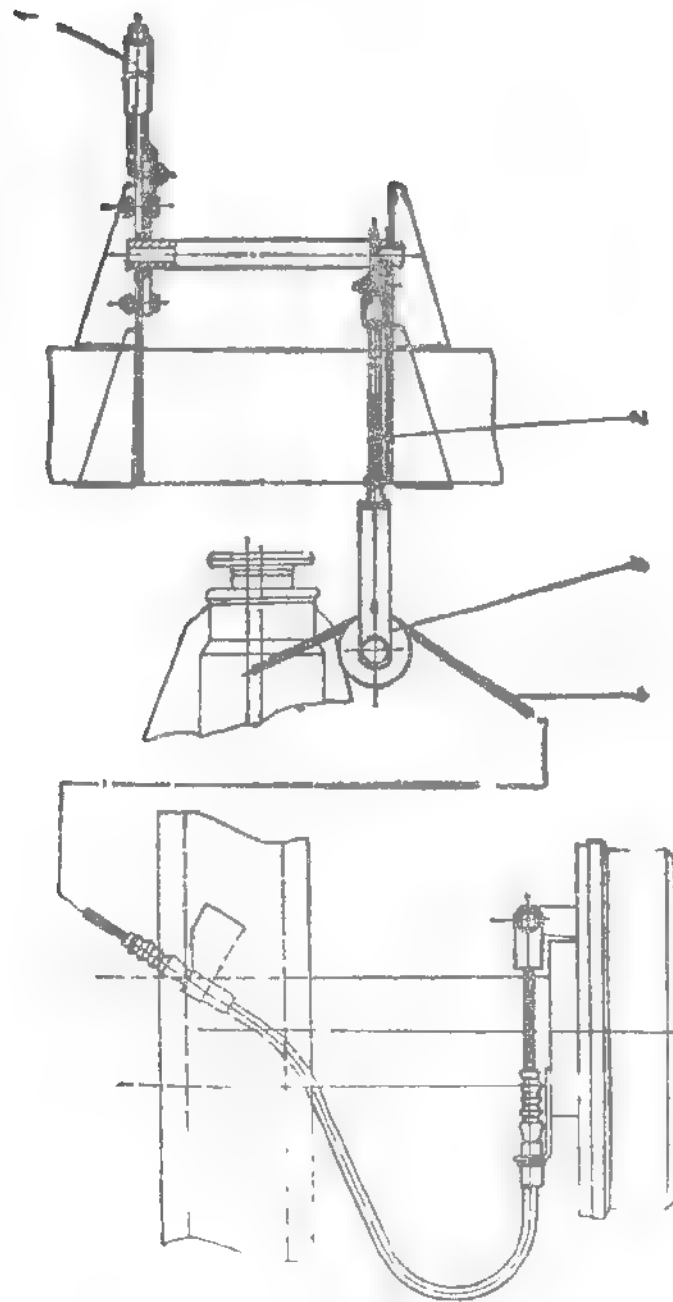

Fig. 4.148. HAND BRAKE CONTROL - TYPE I
- Unscrew counternut and adjusting sleeve from the brake control rod (2) - see Fig. 4.148 - and remove the fork and brake pulley assy; now the brake cable is completely free.